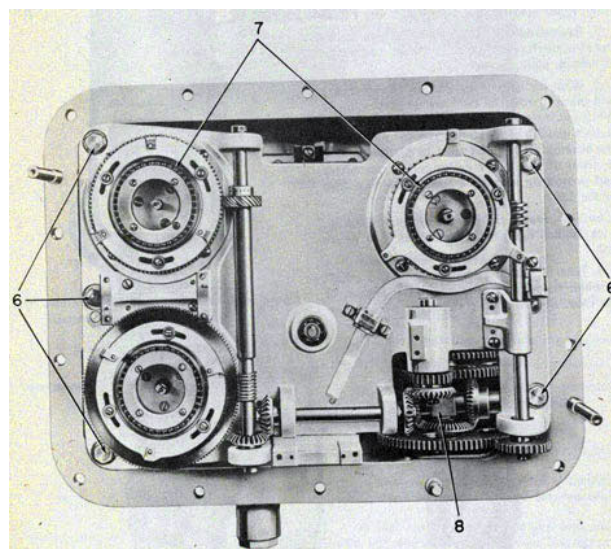

Figure 128-Removal of Chassis and Inspection of Assemblies.
6. Loosen five cap screws which secure the indicator chassis to the case. Now, remove the chassis. See figure 128.
7. Inspect the assemblies for free running of gear trains, bearings and bent shafts. Examine the mechanism for rust, dirt, etc. See figure 128.
8. Check the indicator differential assembly. If faulty, remove and make necessary repairs. See figure 128.